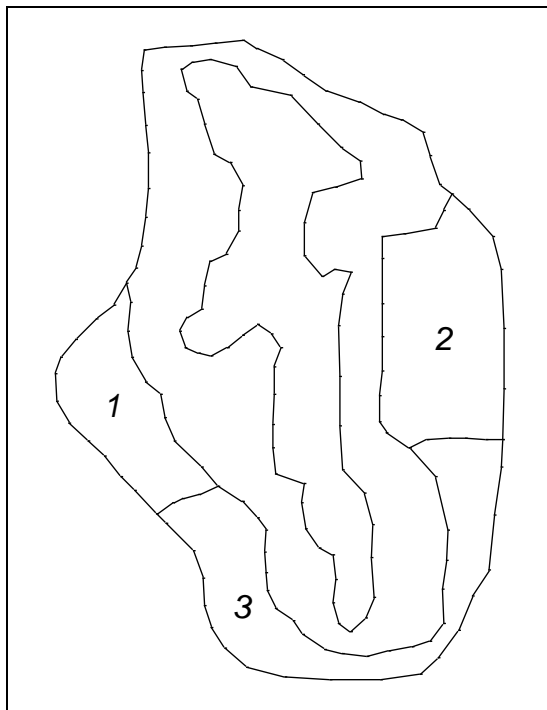

Figure 11 Polygons to be selected.
2. Using the **Select Polygons**  tool while holding the *Shift* key, select polygons 1 and 2 as shown in Figure 11.
6. Double-click on polygon 3 as shown in Figure 11 to open the *Attribute Table* dialog.